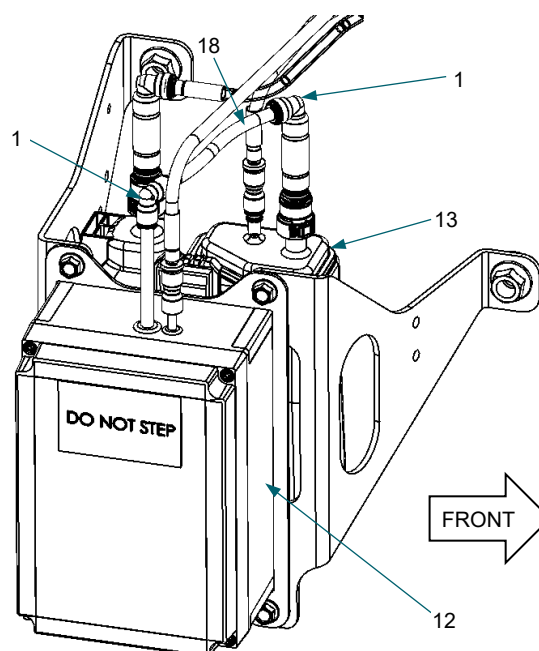

Figure 9: EVAP pump module (12), PCV line, engine to EVAP pump module (16), EVAP canister (13).
1. Remove PCV line, EVAP module box to EVAP canister (18) from quick connects (1) at EVAP module (12) and EVAP canister (13). *Figure 9*